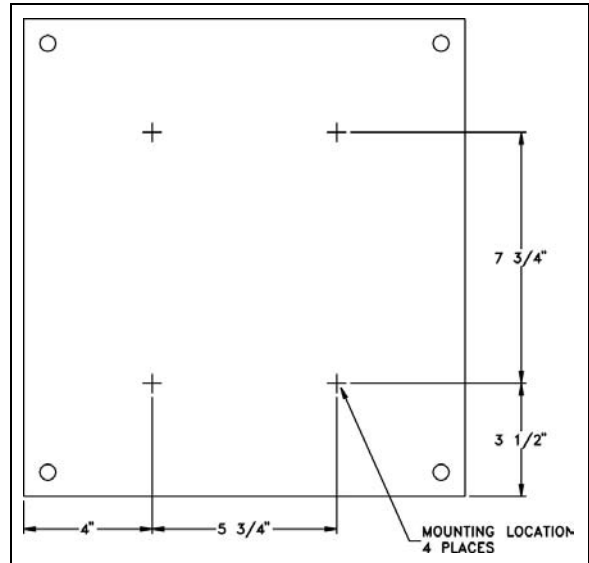

Figure 3: Template For Electronics Module
3. Using template (Figure 3) locate and drill mounting holes for AOC module.